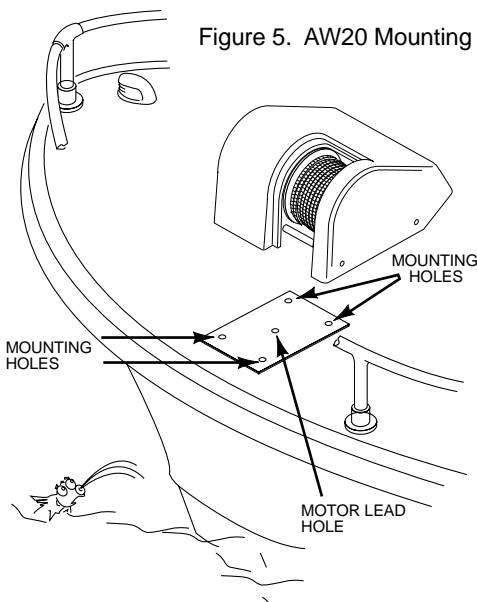

Figure 5. AW20 Mounting
The anchor winch can be mounted on the fore (front) or the aft (rear) of the boat. It is important that the supplied davit line up with the centerline of the rope spool for proper operation. To mount the anchor winch, refer to Figure 5 and follow the procedures outlined below.
9. Spot and drill the holes as shown on the template. There are four 5/16" mounting holes and one 5/16" hole for the motor leads. See Figure 5.
Refer to Figure 5